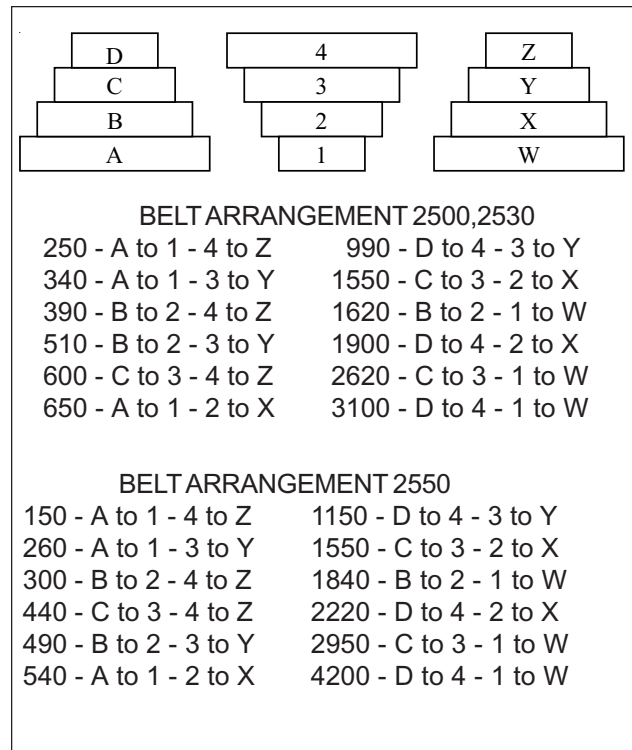

Figure 3. Speed Settings for Models 2500, 2530
4. Refer to Figures 3 for illustrations of the belt-to-pulley groove positions required to obtain the desired speed. Figure 3 shows the speeds for Models 2500 and 2530 and the speeds for Model 2550.